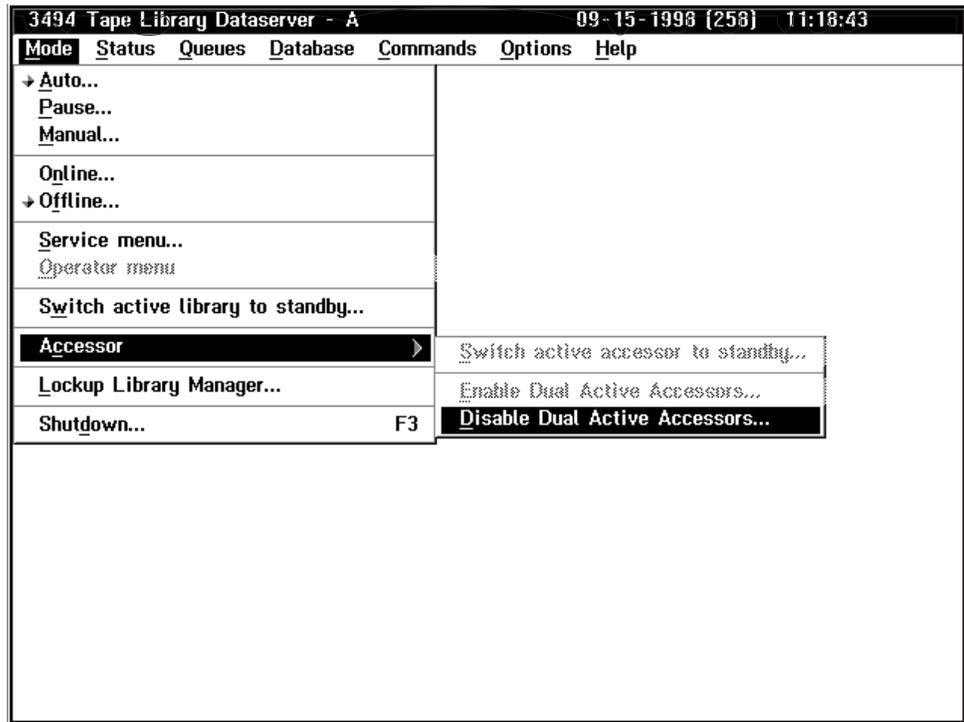

Figure 140. Mode Pull-Down
1. Select **Mode** (Figure 140 on page 229) from the action bar on the Operator menu at the Library Manager (see “Using the Mode Pull-Down” on page 99).